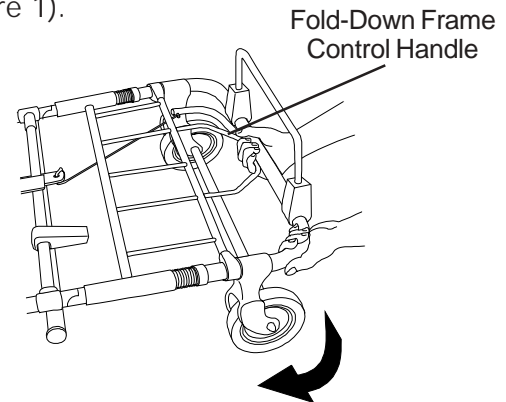

Figure 1 - Operating Fold-Down Frame Control Handle
1. With one hand, grasp corner of frame and slightly lift upward, then with other hand, squeeze fold-down-frame control handle (Figure 1).